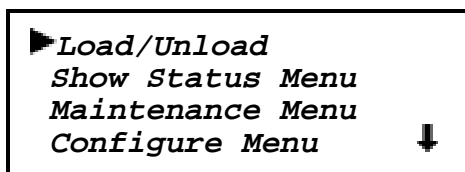

Figure 2-24 Main Menu
2. At the Default Screen, press the **Enter** button. The display will show the Main Menu, as in Figure 2-24.